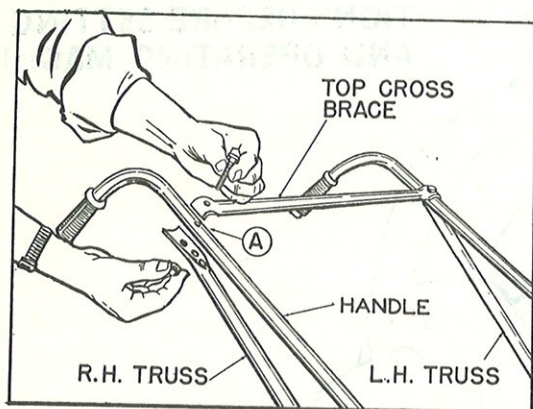

Figure 1
3. Note that there are two sets of holes in the handle truss. Attach top cross brace as shown in Fig. 1, to the handle. Place the bolt, item 3, Fig. 7 thru the top hole in handle truss for maximum handle height. (If lower position is more desirable use the second hole from the end of truss). Assemble both sets of handle and truss in the same hole location on each side. **DO NOT TIGHTEN BOLTS.**